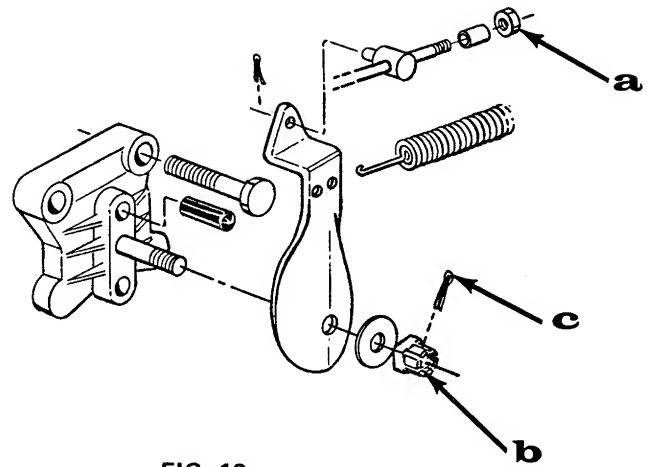

FIG. 13
PEDAL ADJUSTMENT — To take up the adjustment on the brake linkage, tighten or loosen the hex nut (A) on brake linkage. (See Fig. 13).
FINE BRAKE ADJUSTMENT — Remove hair pin (C). Turn the castle nut (B) clockwise to tighten one quarter revolution and check brakes. Repeat as necessary to have proper braking power. Replace hair pin (C). (See Fig. 13).